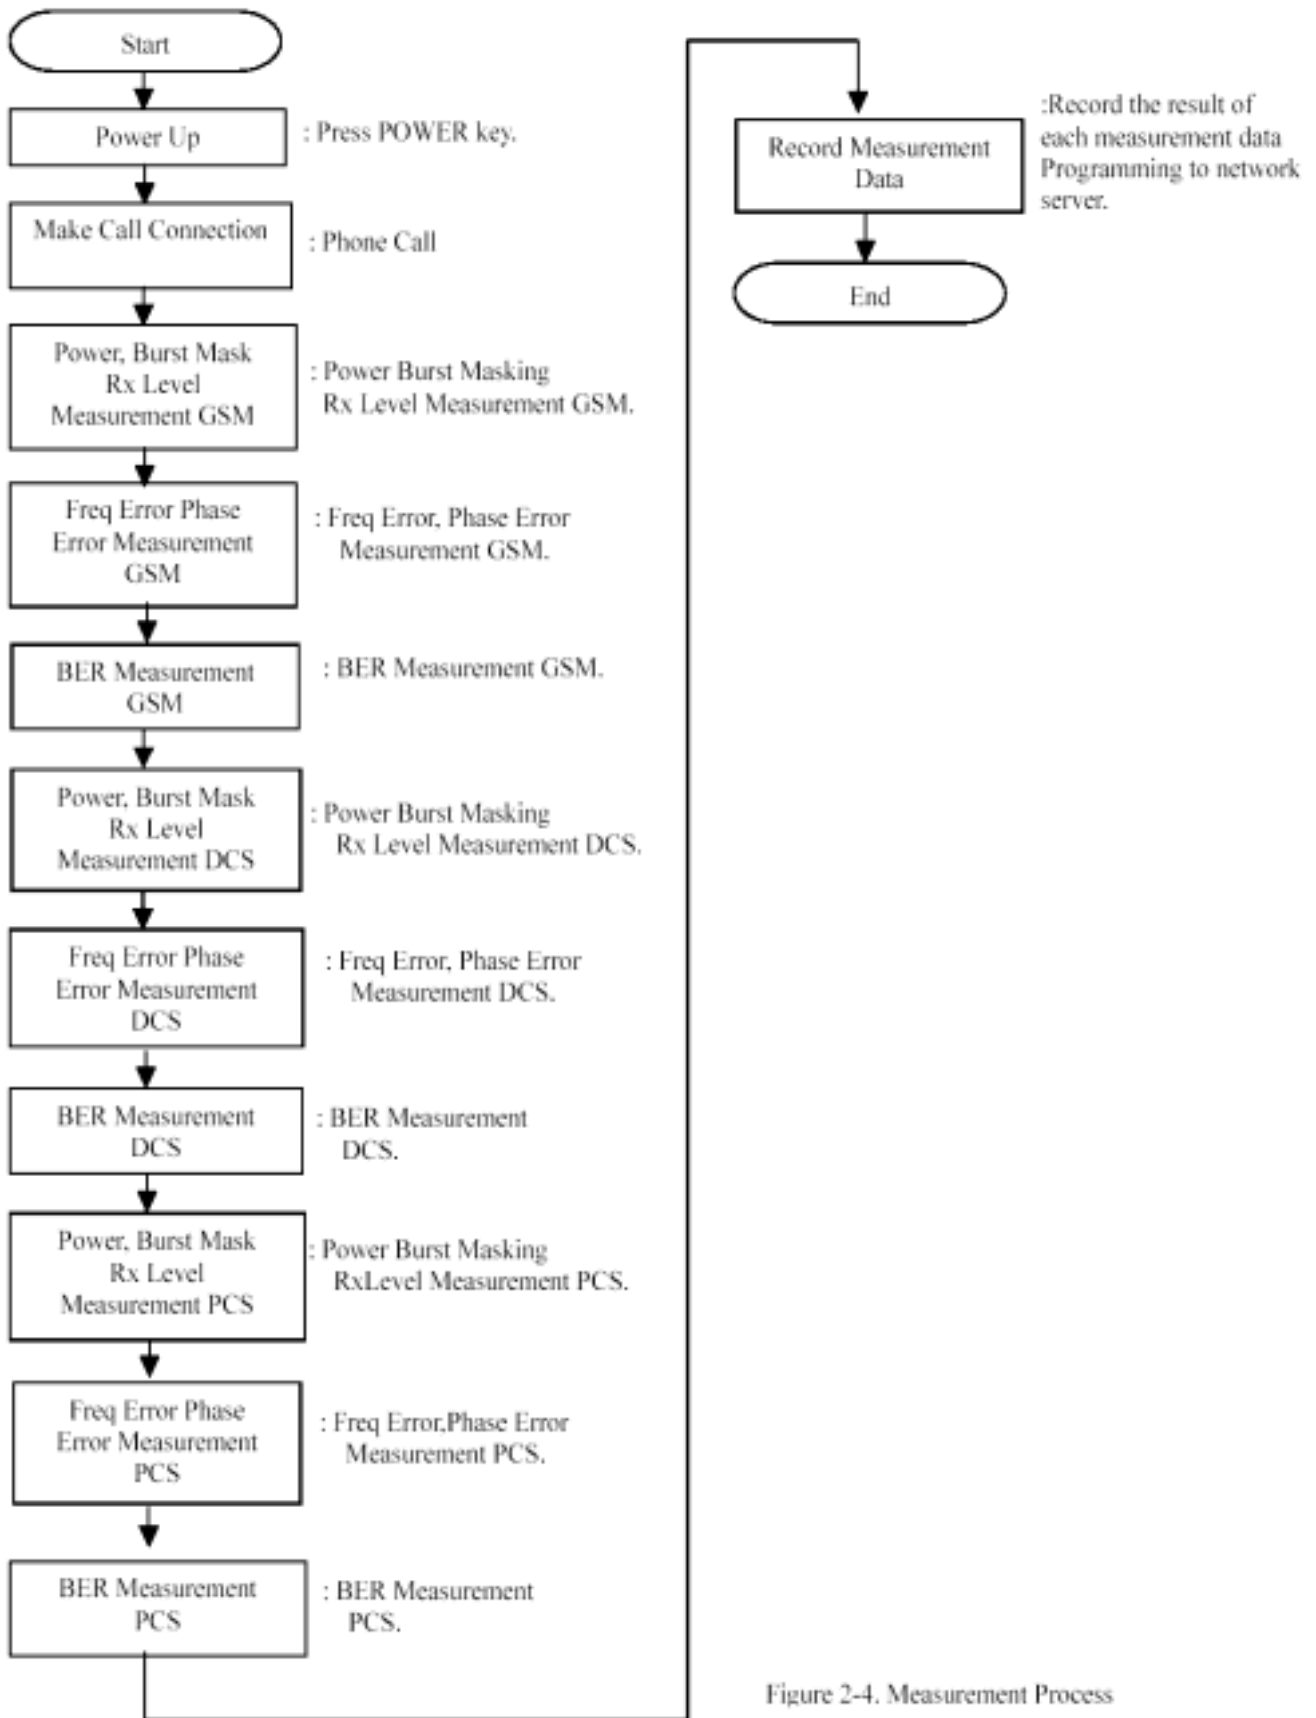

Figure 2-4. Measurement Process
- f) The measurement process flowchart is shown in Figure 2-4.